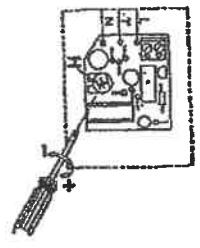

Fig.3
5. The timer can be set from 3-20 minutes by adjusting the Trimmer H (Fig. 3)